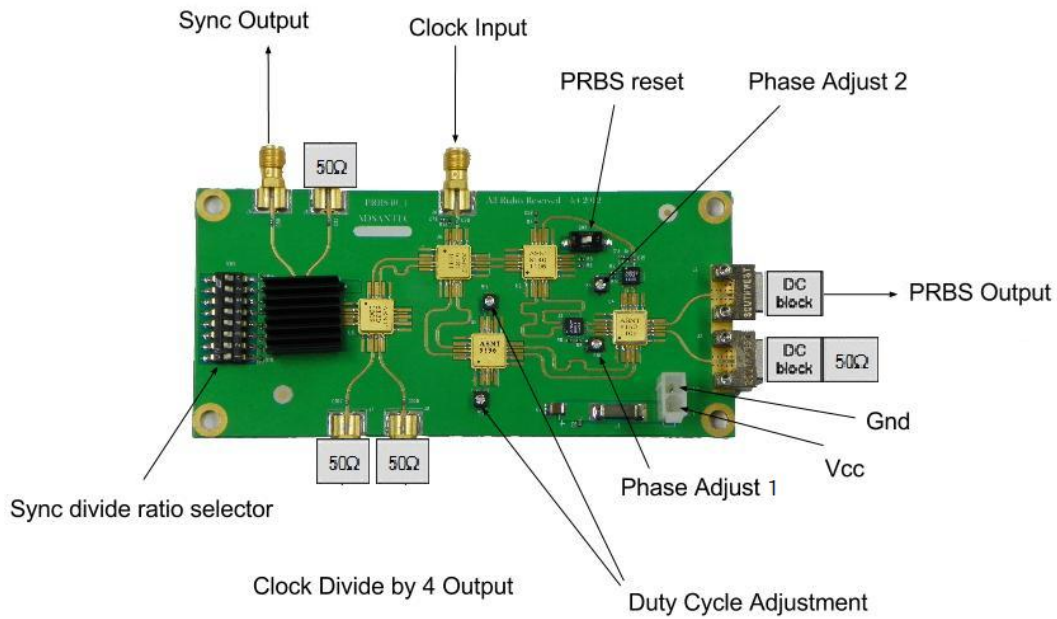

Fig. 5. Recommended Board Configuration Diagram
11. **Fig. 5** below provides a diagram with an example of how this board can be connected.